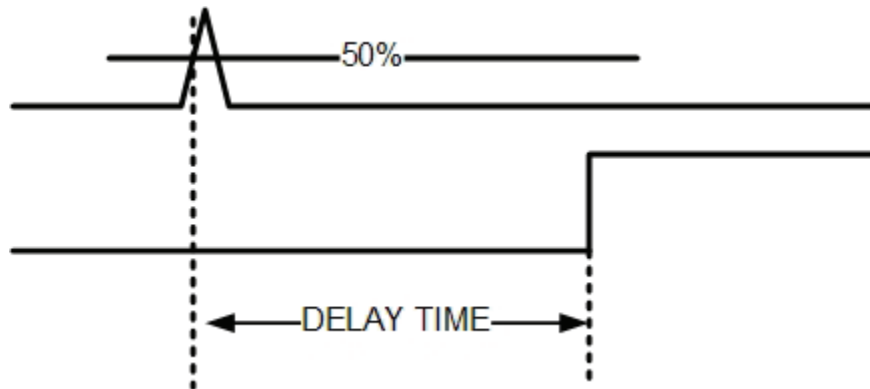

Figure 3. Pulse delay - measurement.
- (2) Position controls as listed in (a) and (b) below.
- (3) Adjust **PULSE DELAY VERNIER** control fully cw. Measure delay between trigger output and pulse at 50 percent amplitude as indicated on oscilloscope. Pulse delay will be less than 35 ns, similar to display on figure 3.